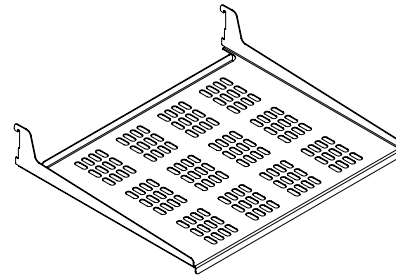

Figure 13
(2) perforated metal cantilever shelves. (See Figure 13).